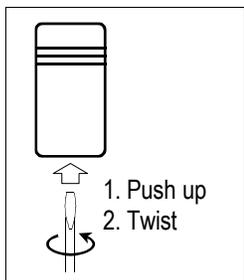

Fig. 2. Open the case
- Remove the cover.** Remove the GEMC-WL-WD2 transmitter cover by inserting a small screwdriver into the slot at the bottom and twisting while applying upward pressure. See Fig. 2 below.